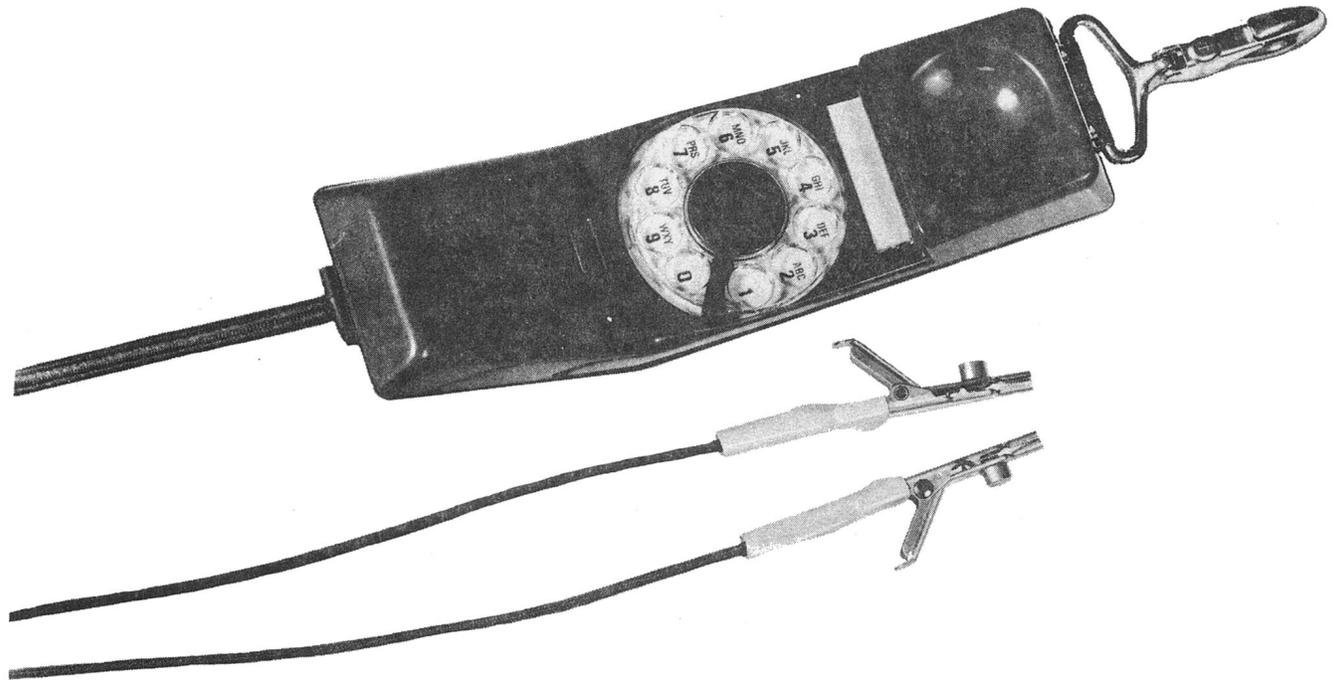

Fig. 1 – QSE4 Type Handset Showing the NSQ4100 L1 Test Clips
1.01 This section covers the description, operation, and maintenance of the QSE4 types of handset (dial hand test set Fig. 1).
2.01 The QSE4A1 and QSE4B1 type handsets consist of a plastic handset equipped with an NE-10QA type dial in the center of the housing, an NE-T1 Transmitter Unit, an NE-U1 Receiver Unit, and a cord provided with test clips. (See Fig. 1, and Table A.)